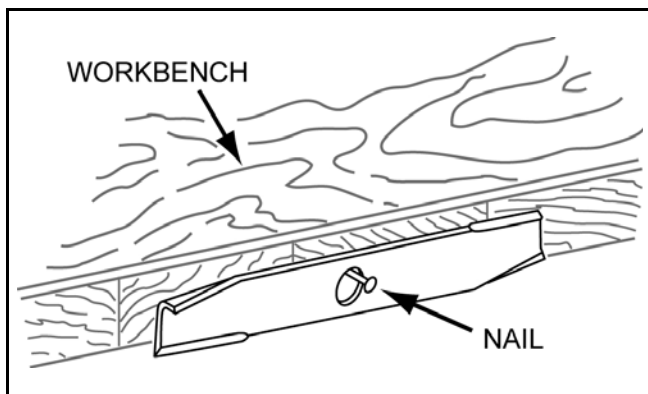

Figure 8. Blade Balancing
4. Sharpen both cutting edges equally to keep blade balanced. Balance blade using the method shown in Figure 8.